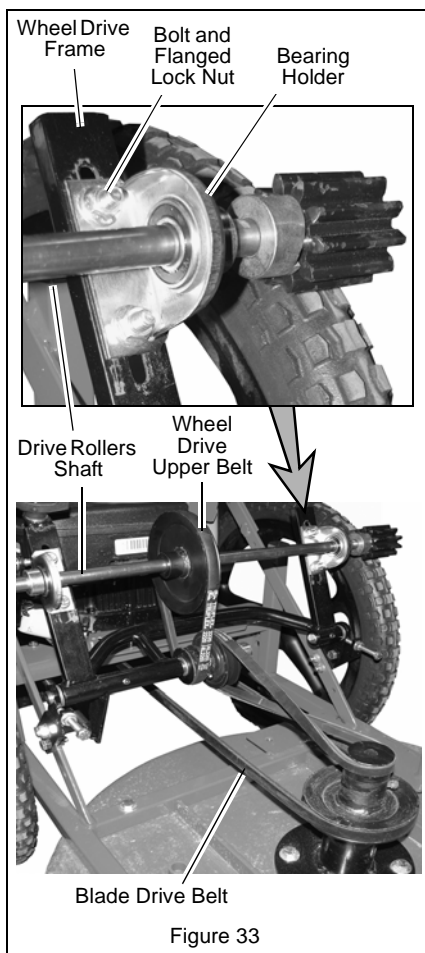

Figure 33
See Figure 33.
5. Install new belt on engine pulley and mower spindle lower pulley. See Figure 33.